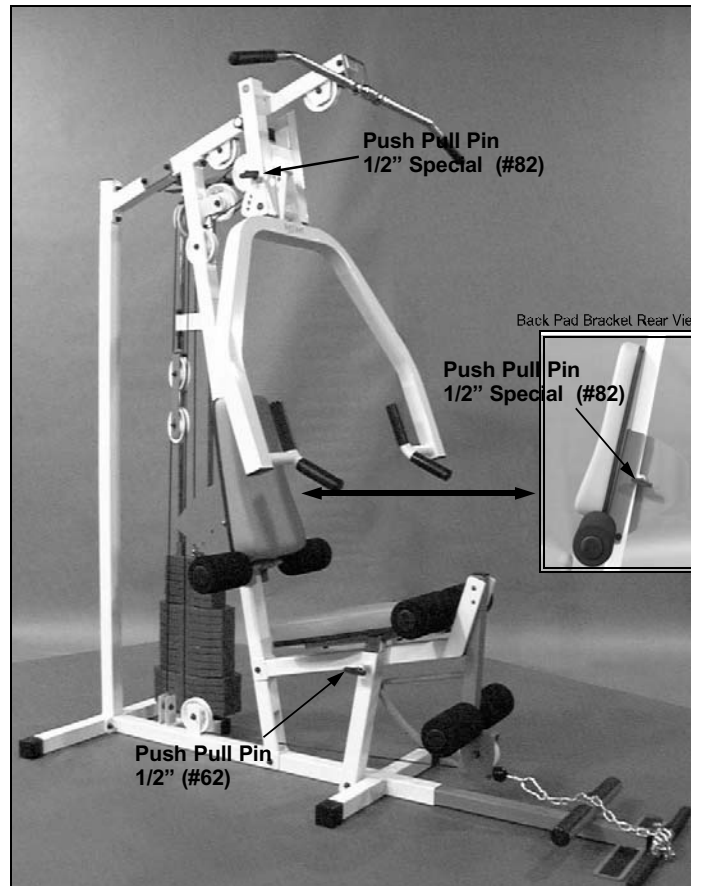
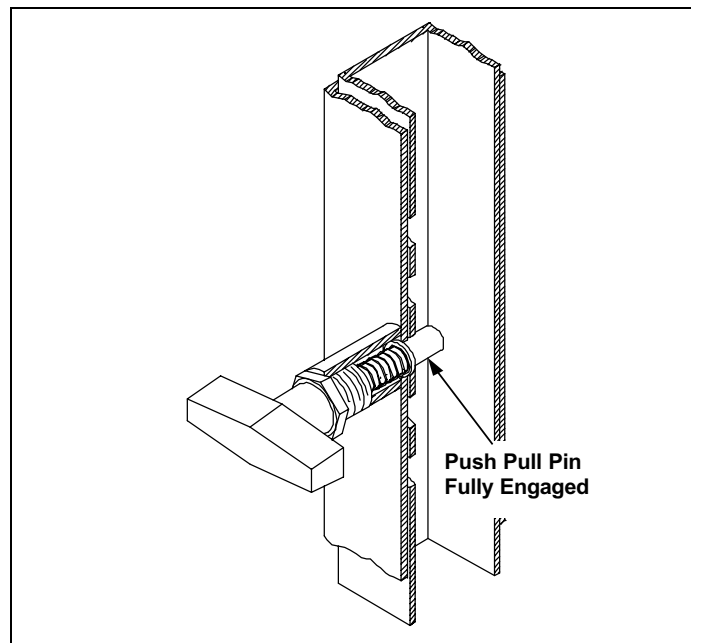

Fig. 1 Illustration above depicts the location of **Push Pull Pins 1/2" Special (#82)** and **Push Pull Pin 1/2" (#62)** on this unit.
Fig. 2 **Warning:** Check that all **Push Pull Pins 1/2" (#82, #62)** are fully engaged into the selectorized holes.
3. Pay special attention to the **Push Pull Pins (#82 and #62)** located on **Press Bar Selector Housing (#2)**, **Front Upright (#4)** and **Leg Extension Bench Frame (#18)**. See **Fig.1**. Be sure they are fully engaged into the selectorized holes. Refer to **Fig. 2** for further illustration of this warning.